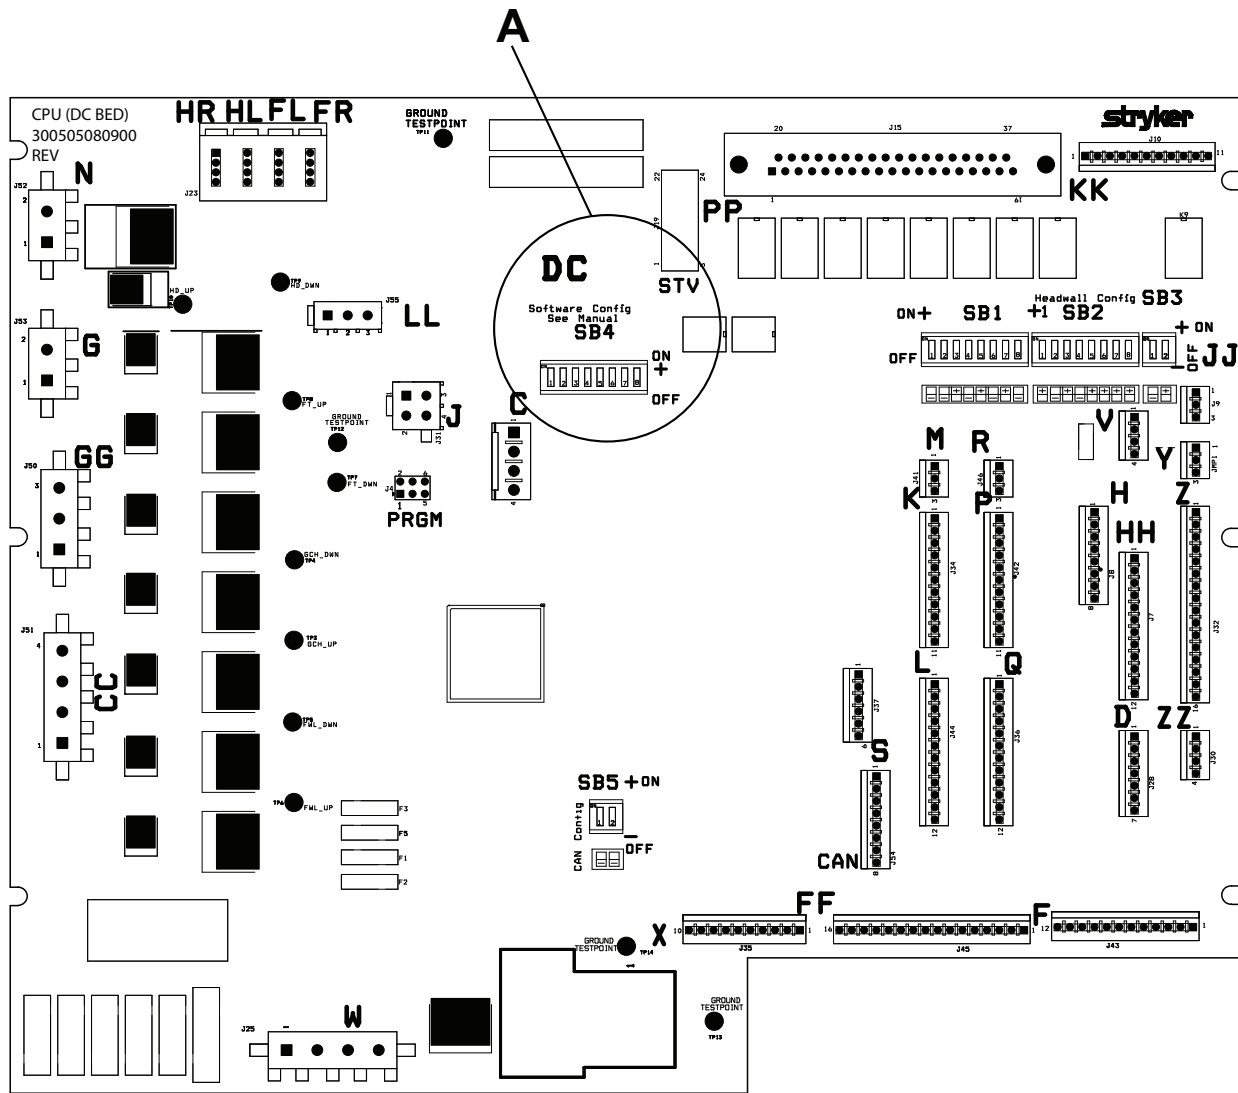

Figure 5 – CPU board
1. Locate switch bank 4, labeled SB4 on the CPU board (Figure 5).